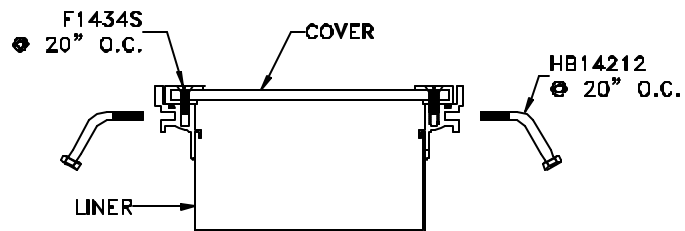

Figure 3
STEP 4. Attach the anchors (part no. HB14212) to the trench cover or access cover frame, spacing the anchors at 20" o.c. (see Figure 3).